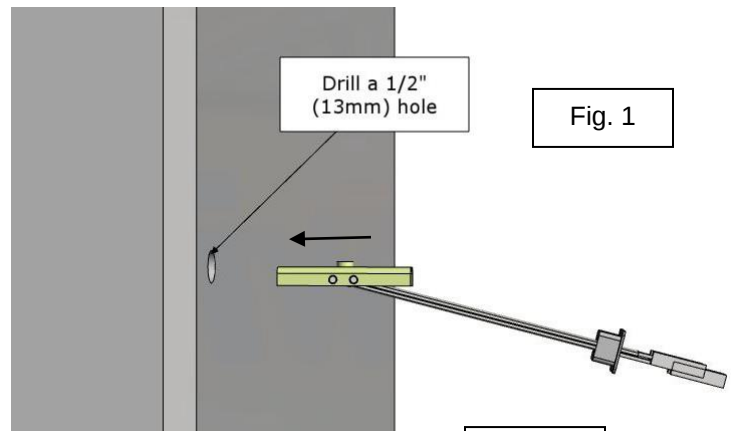

Fig. 1
1. **LOCATION** – Make certain that the chosen wall bracket location is near enough to the connection interface so that it can be connected to it. The cables can also enter from behind the wall bracket. Also position the wall bracket at a mounting height of **47±2 inches**. See Figure 1.
1. Drill a 1/2" (13mm) hole, in the center of the stud flange. Hold metal channel flat alongside plastic straps and slide channel through hole. Minimum clearance behind wall 1-7/8" (48mm). Fig. 1